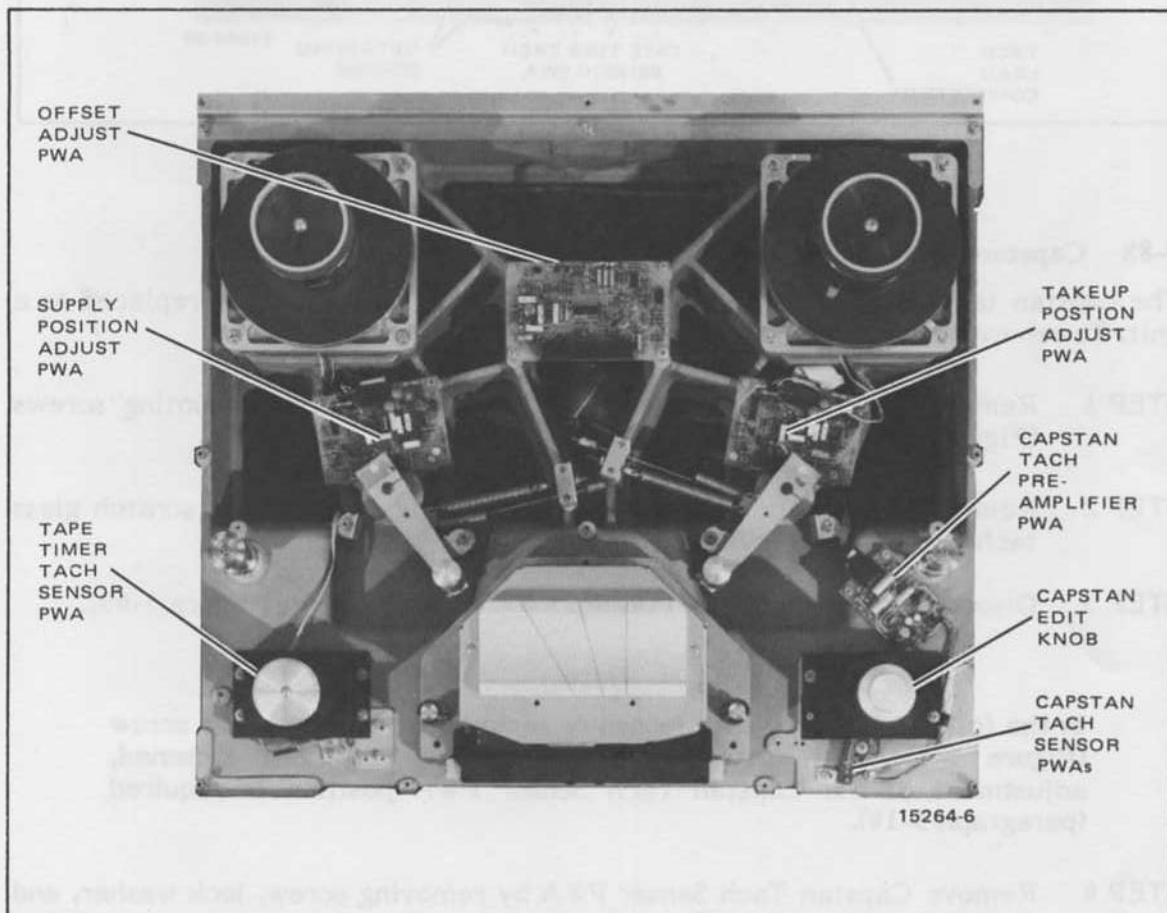

Figure 5-43. Transport Electrical Component Locations
The Tape Timer Tach Sensor PWA (Figure 5-43) is assembled at the factory and must be replaced as a unit. To remove the tape timer tach assembly, proceed as follows:
- STEP 3 Disconnect Capstan Tach Preamp PWA lead connector (Figure 5-43).
- STEP 5 Remove capstan edit knob by loosening three set screws (Figures 5-43 and 5-46).
- STEP 10 Remove the four screws holding the Capstan Tach Preamplifier PWA to the transport casting (Figure 5-43).